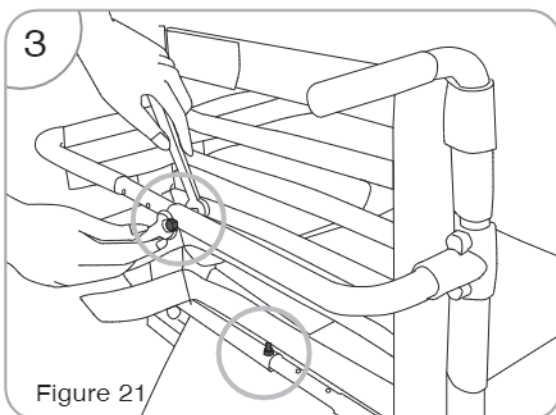

Figure 21
3. Release and take off two screws from support brace and lower bracket. (See Fig. 21).